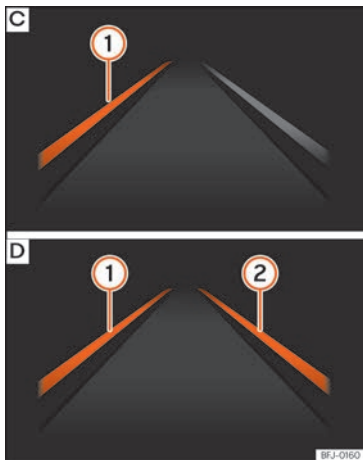

Fig. 272 On the instrument panel display: Indication on the Lane Assist system display (example 2).
- **Fig. 272 [C]:** The system is operational, the highlighted line ① indicates that there was a risk of involuntarily crossing the lane line and that the steering is being adjusted to correct the angle.
- **Fig. 272 [D]:** The two highlighted lines ① and ② light up simultaneously when both lane lines are recognised and the Lane Assist function is activated.